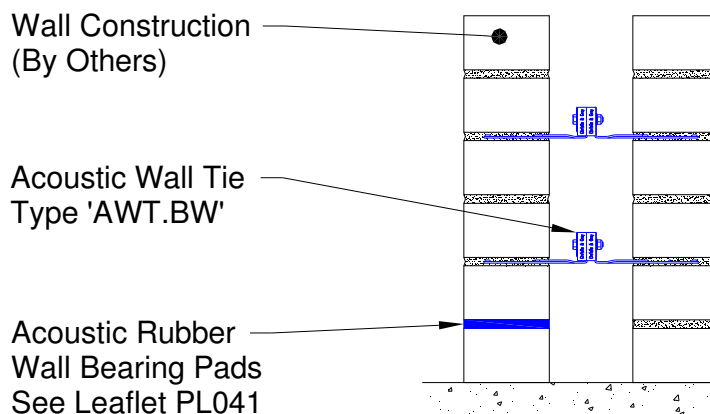

Figure 10
- i). Acoustic wall ties can also be used in conjunction with acoustic rubber wall bearing pads (See Figure 10 and Leaflet PL041).